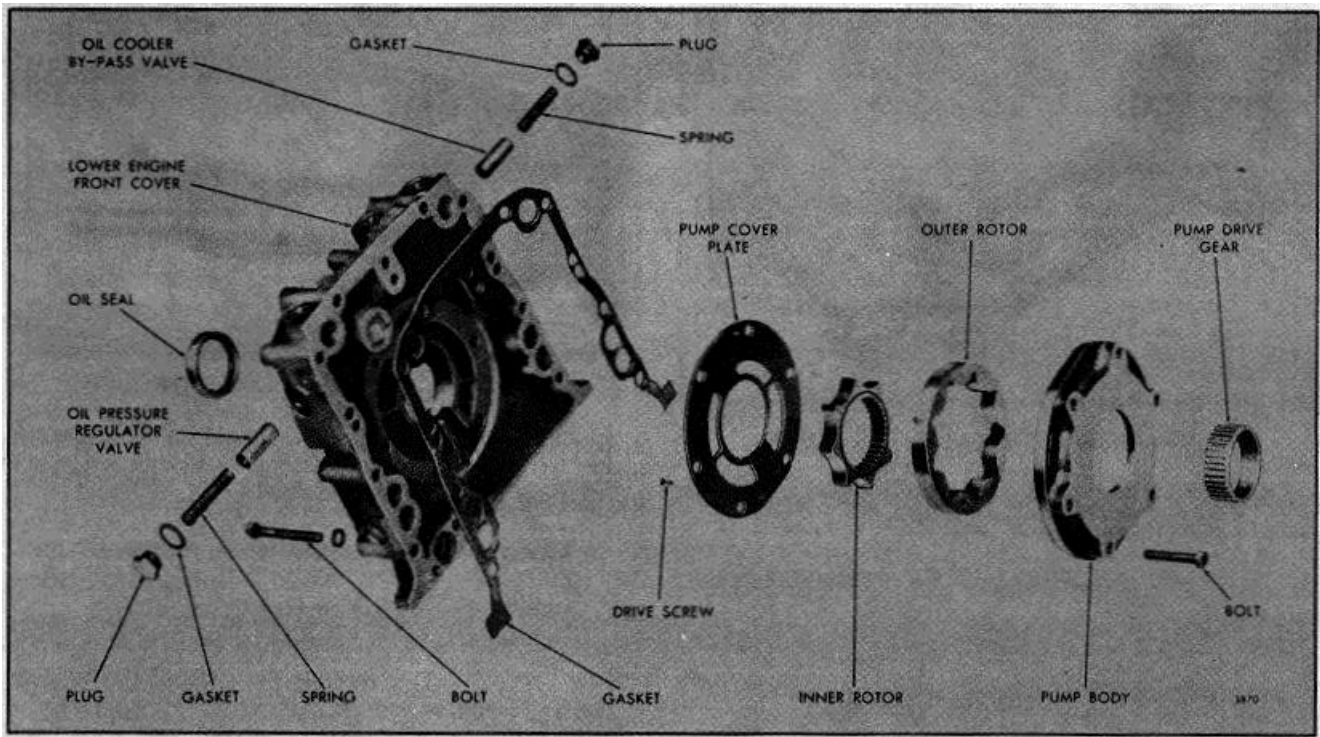

Fig. 5 - Lubricating Oil Pump Details and Relative Location of Parts (Current)
1. Refer to Fig. 5 and remove the two drive screws holding the pump cover plate to the pump body. Withdraw the over plate from the pump body.
After the oil pump parts have been cleaned and inspected, refer to Fig. 5 or 6 and assemble the pump as follows: